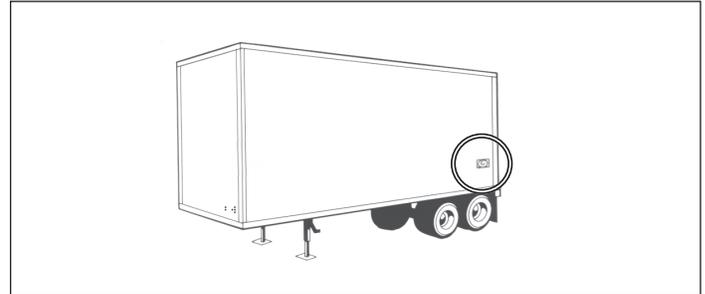

Figure 4 – Trailer-Mounted ABS Indicator Lamp
- **Trailer ABS Indicator Lamp:** Controlled by the ECU to show the ABS status, the trailer ABS indicator lamp illuminates when a DTC is active. See Figure 4. If there are no ABS DTCs present, when ignition power is applied to the ECU, the lamp will illuminate as a bulb check lasting typically two (2) seconds, up to six (6) seconds at most. If Low Pressure Warning Emergency (LPWE) is active, the ABS indicator lamp will be on until the condition is clear.